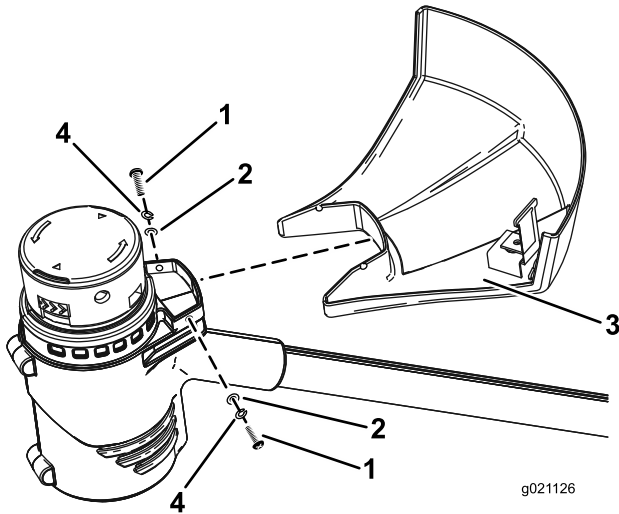

Figure 4
1. Remove the 2 Phillips head screws taped to the guard (Figure 4).
2. Slide the guard onto the trimmer base as shown in Figure 4.